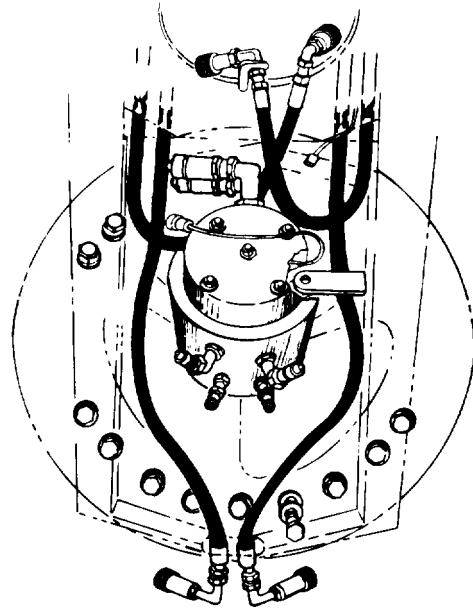

Figure 5-20 Location of Boom Hoist Cylinder Hoses After Disconnection
- b. After disconnecting, pull hose ends out through front hole to keep them out of the way. Remove two plugs size 10 from tool box and plug hose ends (Figure 5-20).